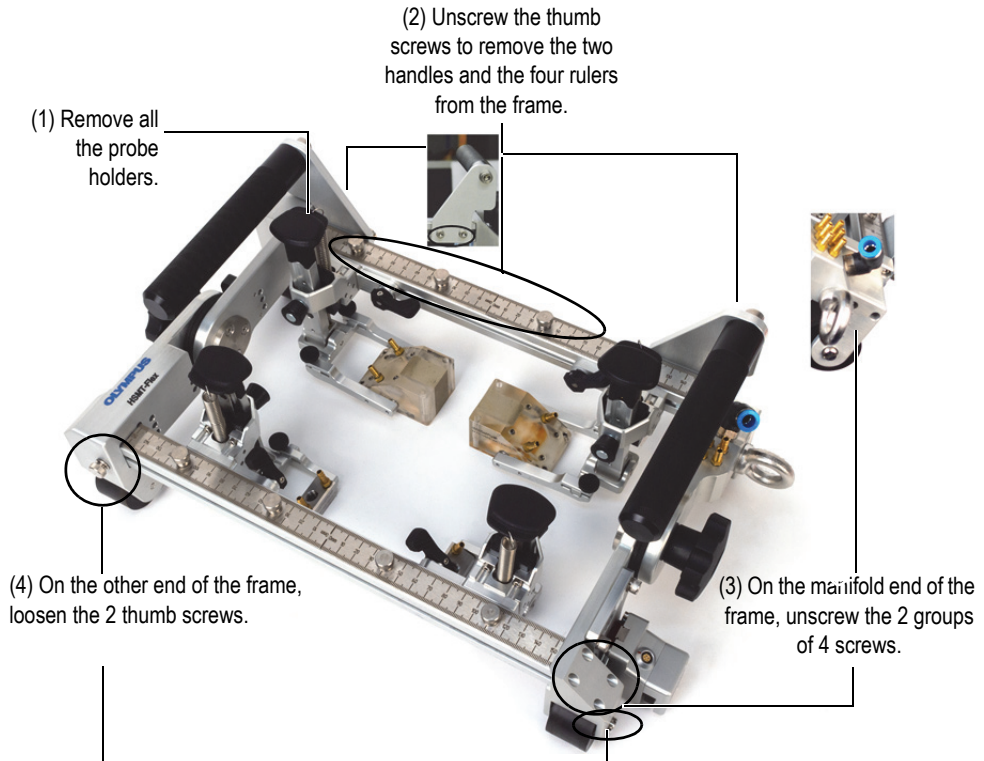

Figure 2-28 Changing the frame bar sections
Refer to Figure 2-28 on page 57 for the logical steps.
1. Remove all the probe holders (Figure 2-28 on page 57 [1]).
2. Unscrew the thumb screws to remove the two handles and the four rulers from the frame (Figure 2-28 on page 57 [2]).
3. Use the appropriate hexagonal key to loosen and remove the two groups of four screws on the manifold end of the frame (Figure 2-28 on page 57 [3]).
4. Remove manually the two thumb screws on the other end of the frame (Figure 2-28 on page 57 [4]).